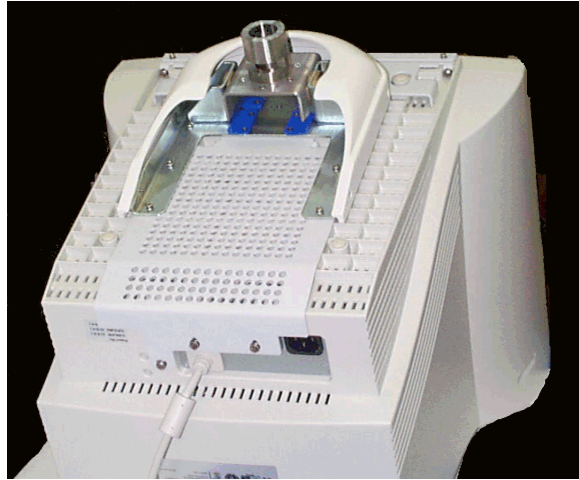

Figure 8-37 Vivid 3N Monitor showing Underside
- 5) Carefully lay the monitor on a soft surface and turn it upside down, so that its underside is accessible, as shown in Figure 8-37 "Vivid 3N Monitor showing Underside" on page 8-36.